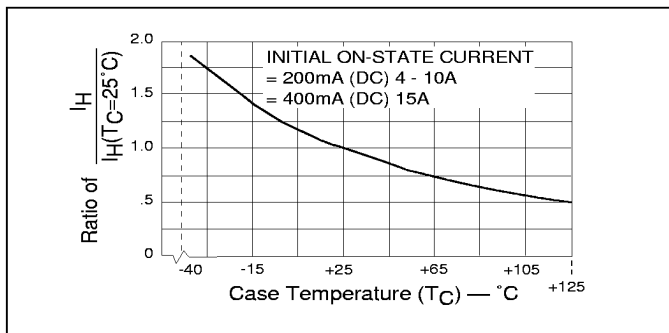

Figure 3.1 Normalized DC Holding Current vs Case Temperature
- See Figure 3.1 for  $I_H$  vs  $T_C$ .